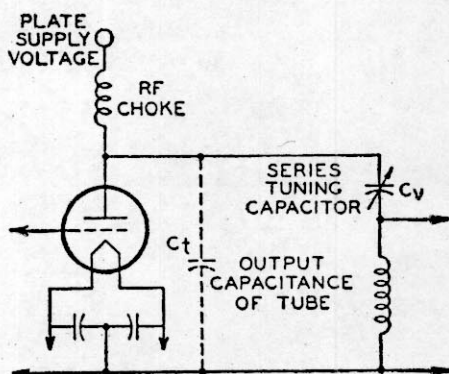

Fig. 38
(4) Employ a "series-tuned" tank circuit of the type shown in Fig. 38, in which the variable capacitance  $C_v$  is several times larger than the tube capacitance  $C_t$ .